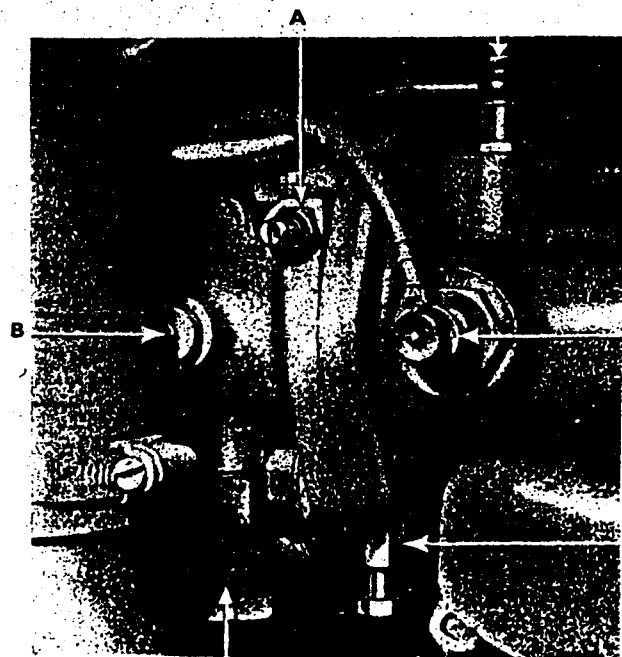

FIG. 101
2. Loosen the maximum speed adjusting screw locknut — Fig. 101, fully open throttle lever and adjust the setting screw until an engine speed of 2,200 r.p.m. under no load conditions (800 r.p.m. P.T.O. speed) is obtained. Then tighten lock nut securely, taking care not to disturb the setting.